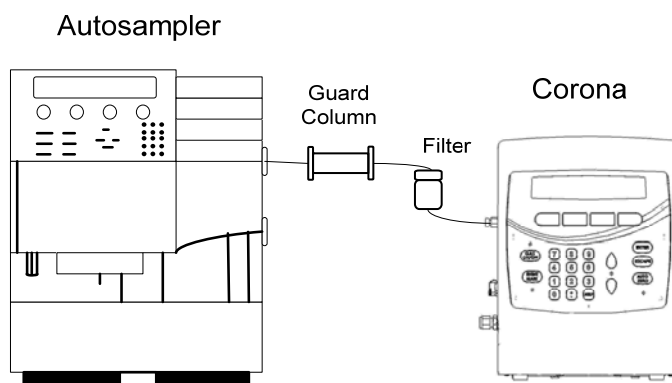

Figure 2-9: Correct Setup of Drain Tubing
- f) Place the waste bottle in secondary containment in a secure location below the detector (Figure 2-9). Make sure that the cap is tightened to prevent any gas leaks. The waste bottle is a closed system under a slight pressure and has a pressure relief valve on the cap in the event that the bottle becomes over-pressurized (e.g., if exhaust is blocked).